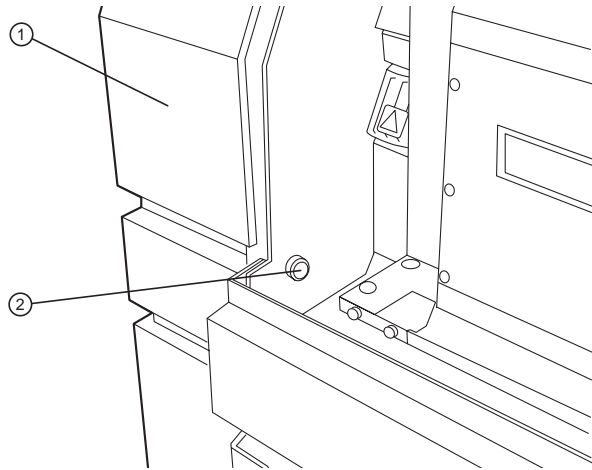

Figure 1-15 Opening the imagesetter side doors.
1. Open both side doors on the imagesetter by loosening the thumb screws on the inside. Refer to Figure 1-15.
2. Remove the two (2) plastic access panels at the top of the imagesetter.